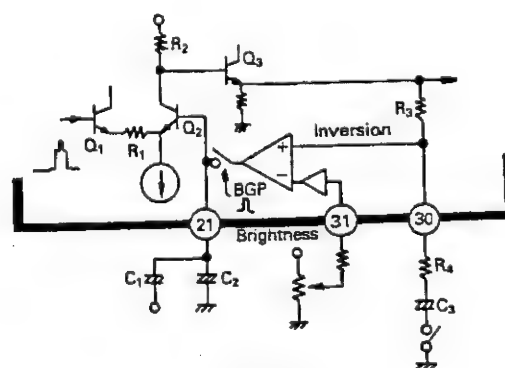
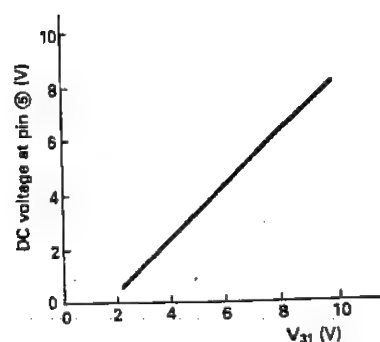

Figure 33-1.
Figure 33-2.
Fig. 33-1 shows an outline of the DC restoration/brightness control circuit.
During BGP periode, it is seen from Fig. 33-1 that DC voltage at pin ②① is inverted in phase and fed back to pin ②②. In this way, it is possible during BGP period to control DC voltage (pedestal DC voltage) at the emitter of Q_3 by applying a brightness control voltage to pin ②①. Fig. 33-2 represents the brightness control characteristic.